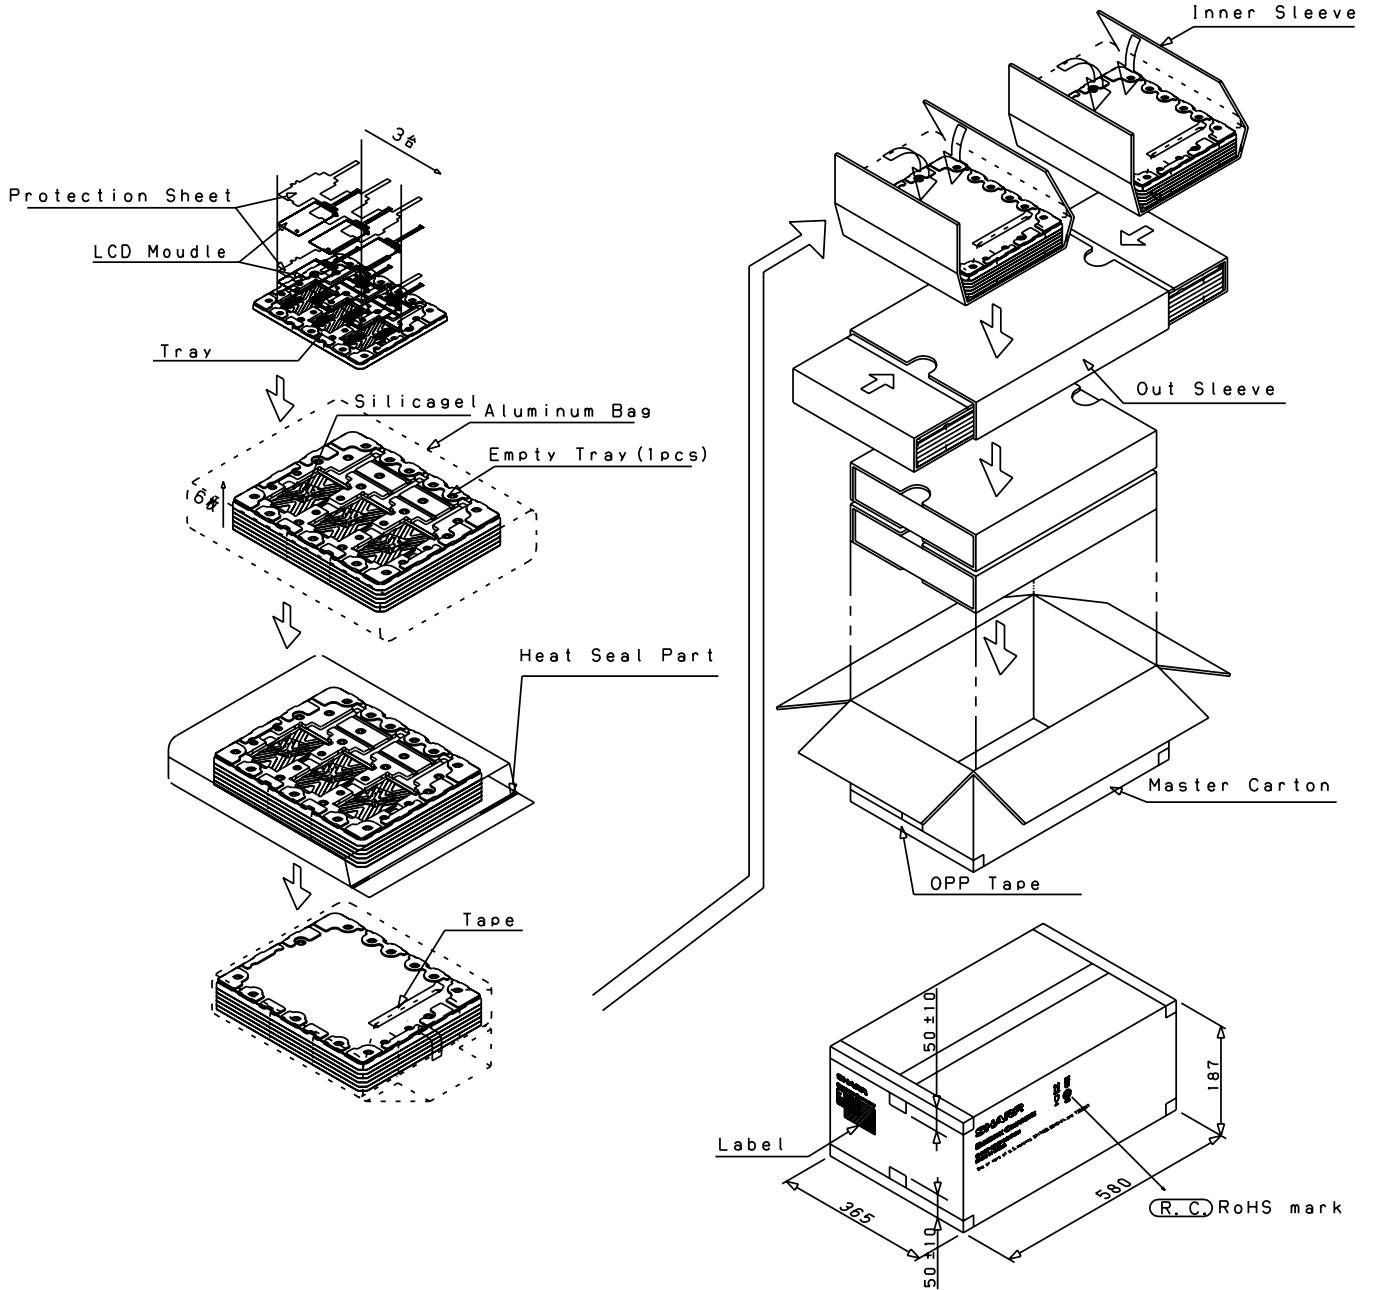

Fig.19 Packaging style (Tray for packaging)
- 2) Packaging style : Fig.19, 20